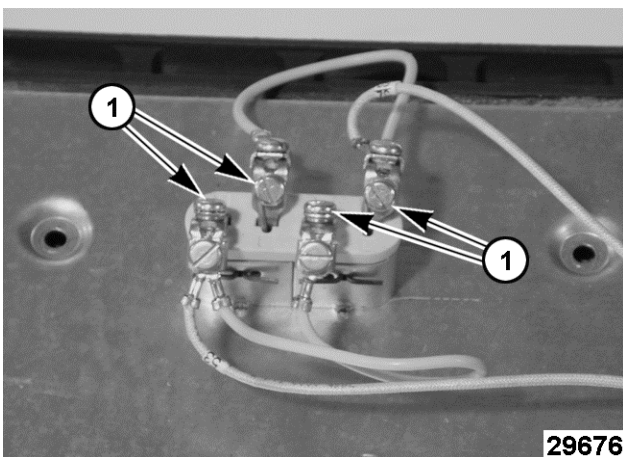

Fig. 23
4. Remove the inside terminal screws (1, Fig. 23) from electrical connections.